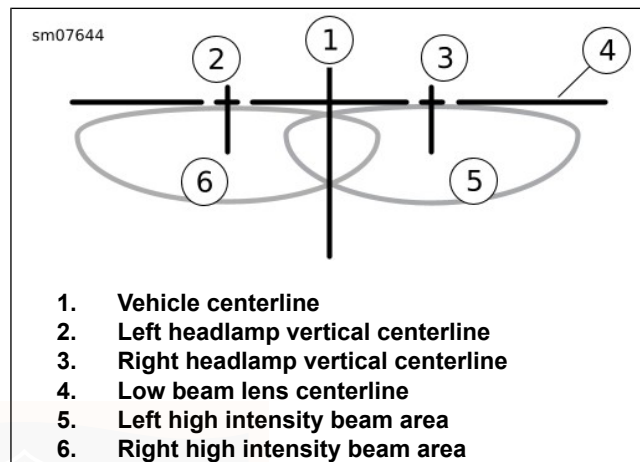

Figure 83. Headlamp Beam Pattern: Dual LED
- See Figure 83. The headlamps are aligned when the light beam hot spots are located at or below line (4) and centered on lines (2, 3).
5. See Figure 83. Cover the right headlamp. Adjust left headlamp so the top of the high intensity zone (6) is at or below horizontal line (4) and centered under the left centerline (2).
6. Cover the left headlamp. Adjust right headlamp so the top of the high intensity zone (5) is at or below horizontal line (4) and centered under the right centerline (3).